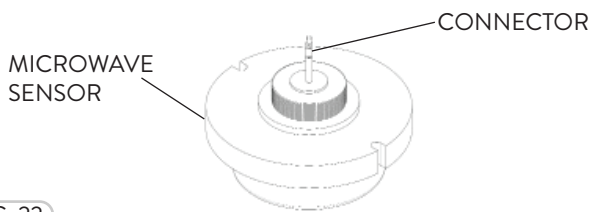

FIG. 22
- 2 The Microwave Occupancy Control Sensor has a Connector that inserts into the bottom of the FLHC fixture (Fig. 22).